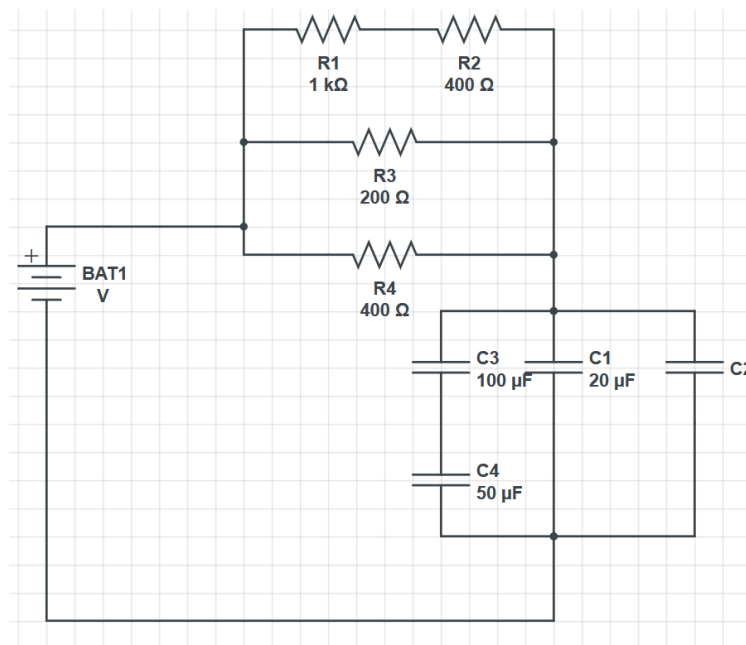

Figure 4.7: Time constant practice.
14. Answer the following in the results section of your log book. Your draft calculations can be shown in the “General Notes” section of the log book. Given Fig. 4.7, what must be the value of C2 such that the time constant of the equivalent circuit is approximately $\tau = 12.5\text{ms}$? If one replaces C2 by two capacitors in series, one of which has $C5 = 250\mu\text{F}$. What must be the capacitance of the second capacitor to preserve the same time constant?